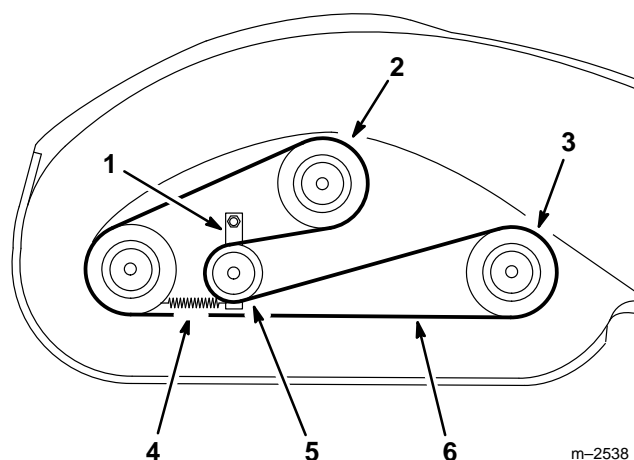

Figure 23
2. Grease the fittings on the three spindle bearings and the idler arm (Fig. 23).
4. Disconnect the idler arm spring to relieve tension on the idler arm and idler pulley, then remove the worn deck belt (Fig. 23).
5. Install the new deck belt around the two outboard spindle pulleys, the idler pulley, and in the lower groove of the center spindle pulley (Fig. 23).
6. Reconnect the idler arm spring (Fig. 23).